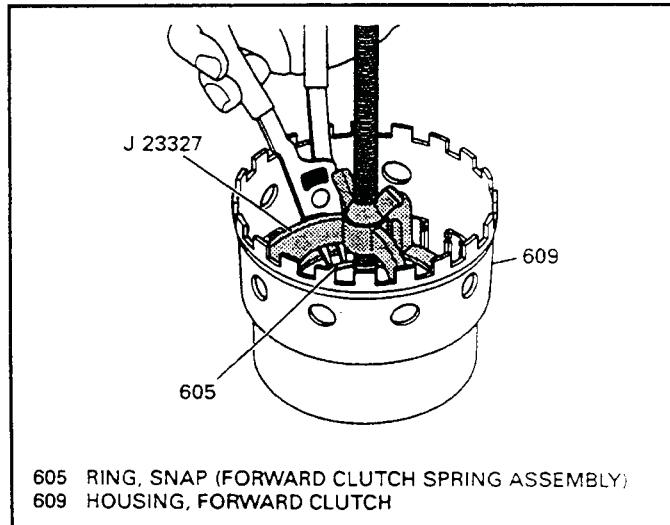

Figure 115
8. Lay the snap ring on top of the return spring assembly, install spring compressor as shown in Figure 115.
10. Install the snap ring into the groove, to retain the return spring assembly (See Figure 115).